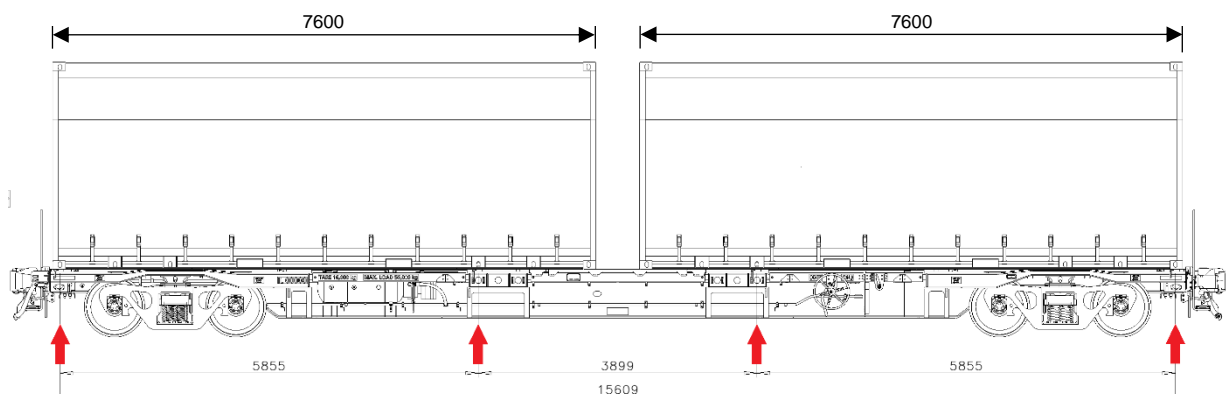

Figure 1 - Wagon Loading
- Rail transport** Use 20' (5,853mm) spaced corner fittings. (Figure 1)